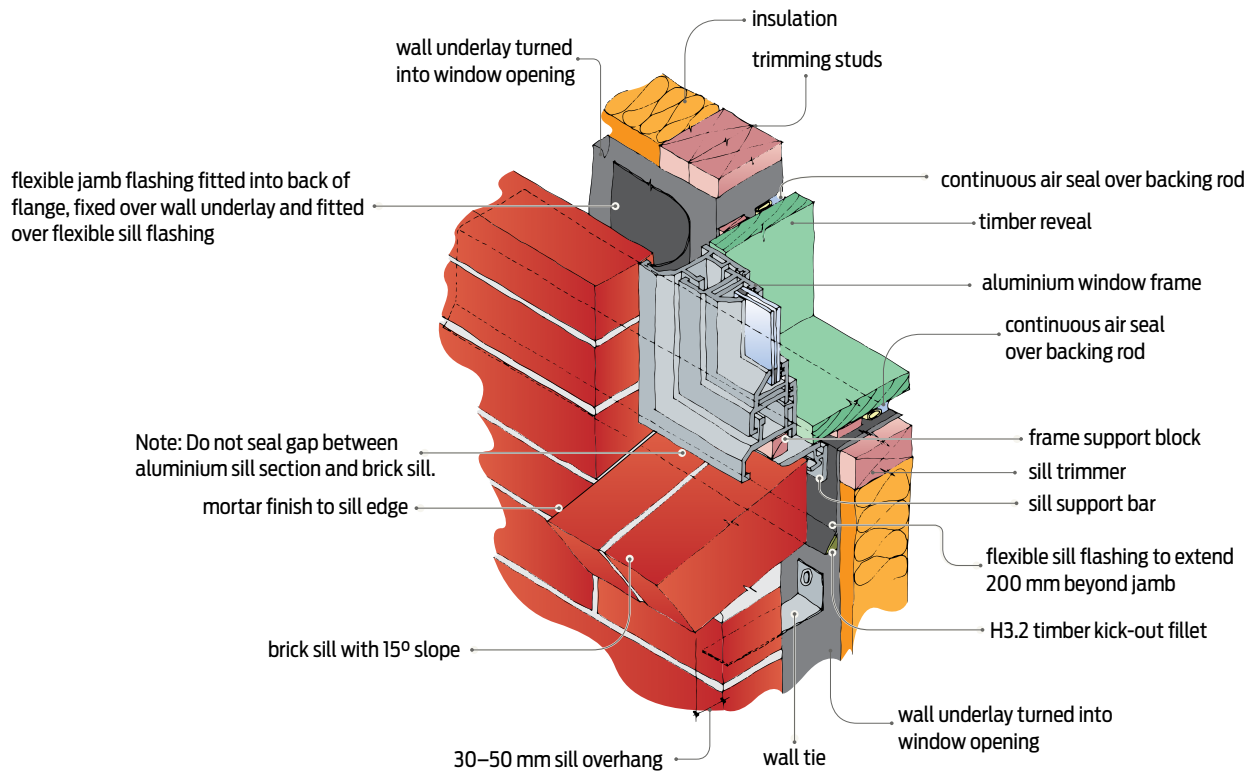

Figure 54 Aluminium window installation – jamb and sill detail.
- be extended 200 mm beyond the jamb line on both sides (see Figures 54 and 55).
moisture is directed to the outside face of the cladding (see Figures 54 and 55).
- aluminium window sills must have a sill support bar where the window is wider than 600 mm (see Figure 54)